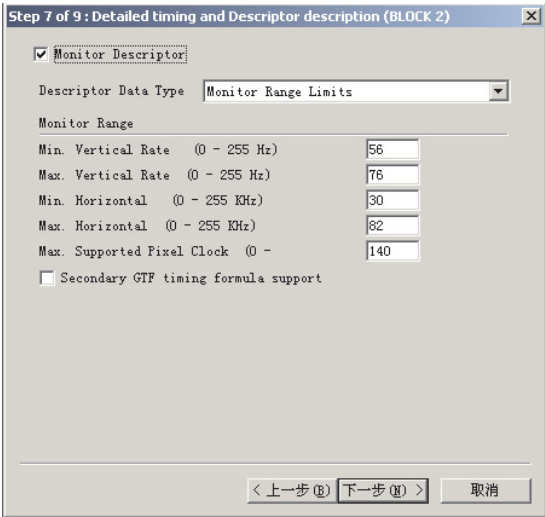

Fig. 20
6. Click Next , bring up Fig. 20.